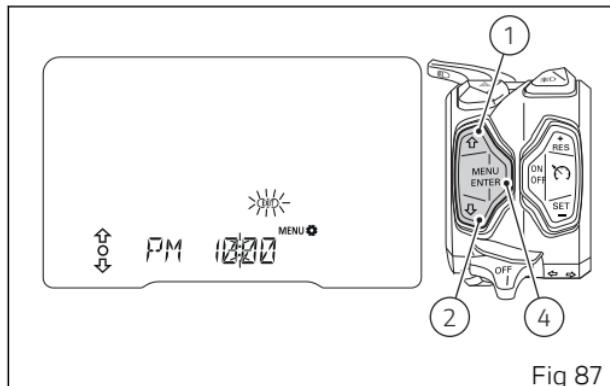

Fig 87
Press button (4), EXIT is selected (flashing frame) (Fig 87).